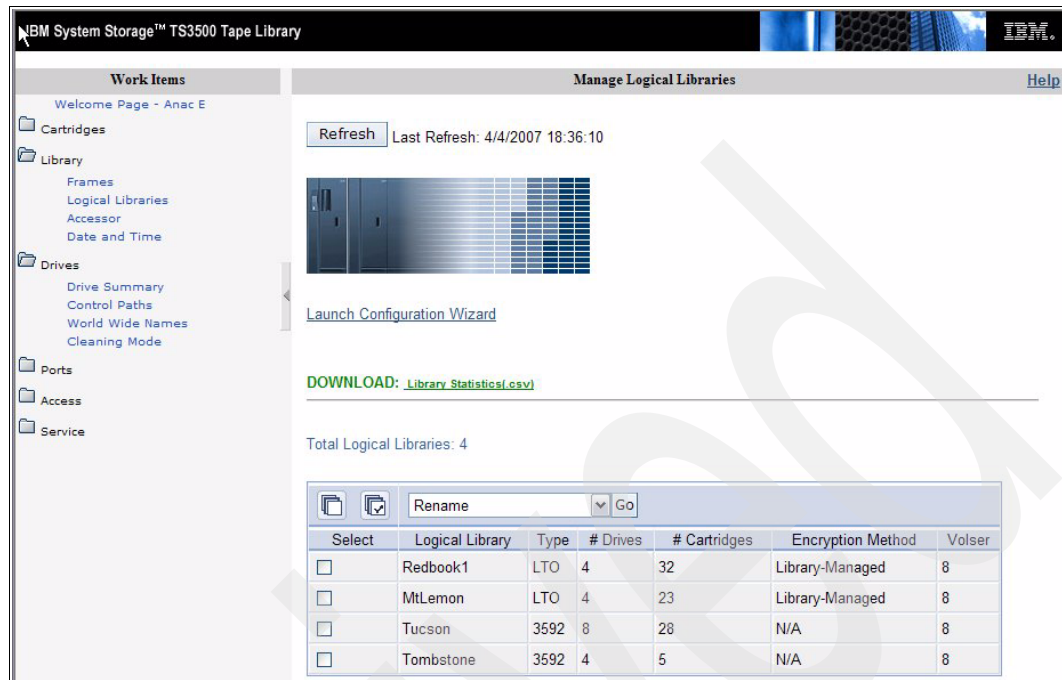

Figure 2-38 IBM TS3500 Logical Library status
13. When all logical libraries are renamed, we have our library layout; see Figure 2-38.